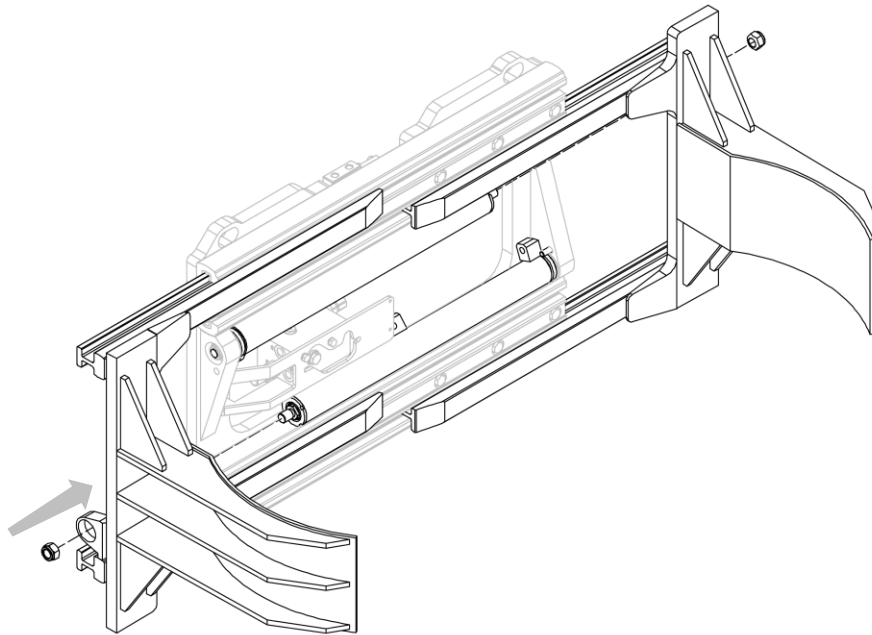
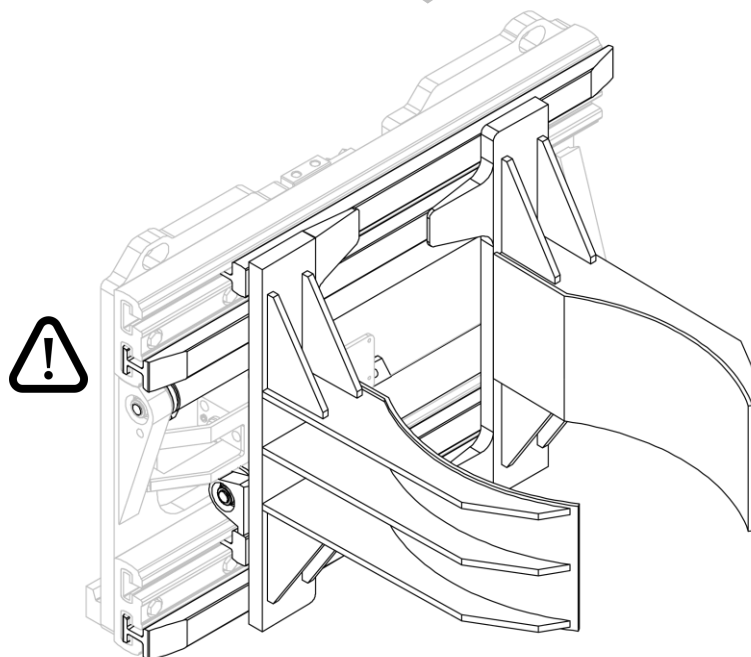

Figure 13
Figure 14
2. Insert the fork assembly + forks into their housings and secure them to the cylinders using the nuts (see *Figure 13* and *Figure 14*).